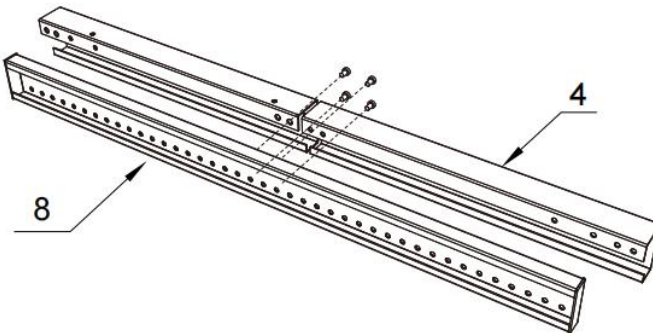

Figure 3
4. Secure with 4pcs M5*10 Cross head screws(⊗) through into the holes in the Corner Brackets and Center Sections. (Figure 3)